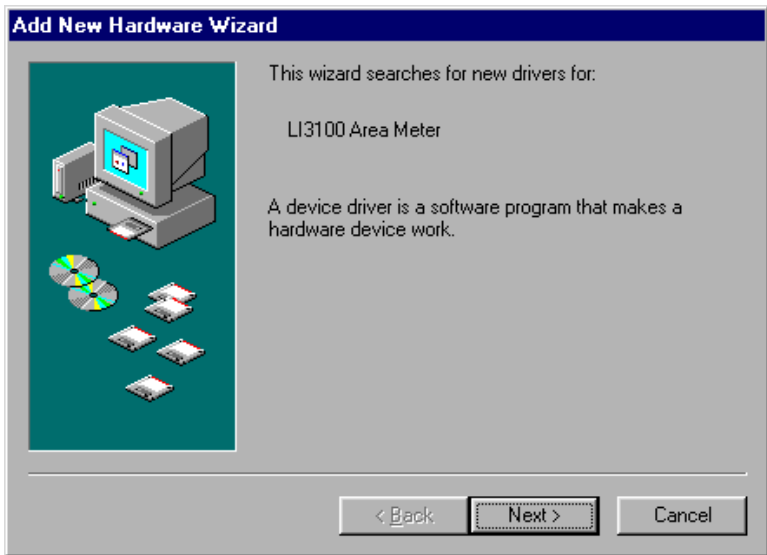

Figure 21. Windows 98 New Hardware Wizard.
1. New Hardware Wizard appears. Click **Next**. (Figure 21).